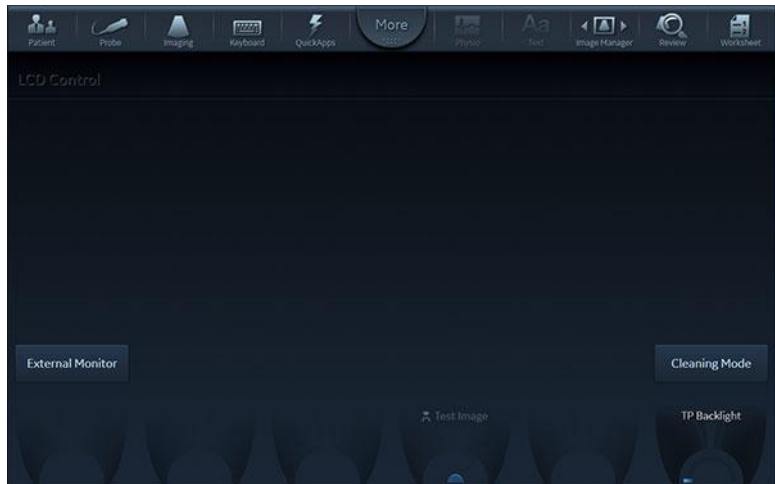

Figure 3-32. LCD adjustment utility
2. Tap the LCD setup tab. The Touch Panel will display several screen adjustments controls (Figure 3-32).